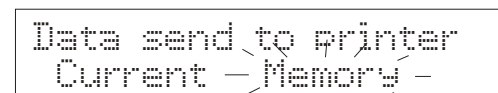

Figure 180
5. Press  $>/CAL$  key to toggle between Data send to printer **Current** and **Memory**. The selection will flash. See **Figure 180**.